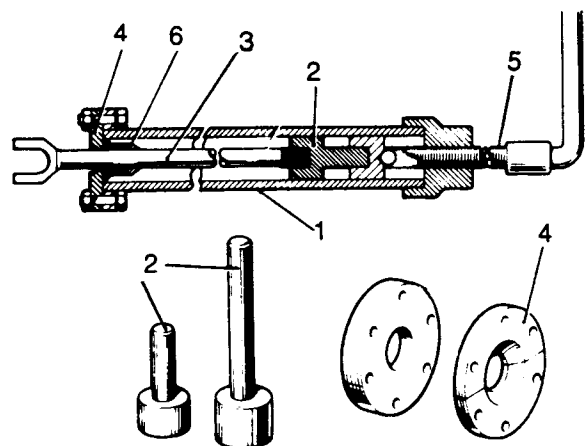

Fig J1.42
- (1) Refer to Fig J1.42. Clamp the extractor tube (1) of special tool 275870 in a vice.
- (2) Position adaptor No. 2 or No. 3 (2), as applicable, onto the shaft (3) and insert the assembly into the extractor tube (1).
- (3) Secure the shaft to the extractor using adaptor No. 5 (4).
- (4) Screw in the ram (5) and press the shaft from the retainer collar, bearing and conical distance piece (6).
- (5) Remove the adaptor; discard the retainer collar.